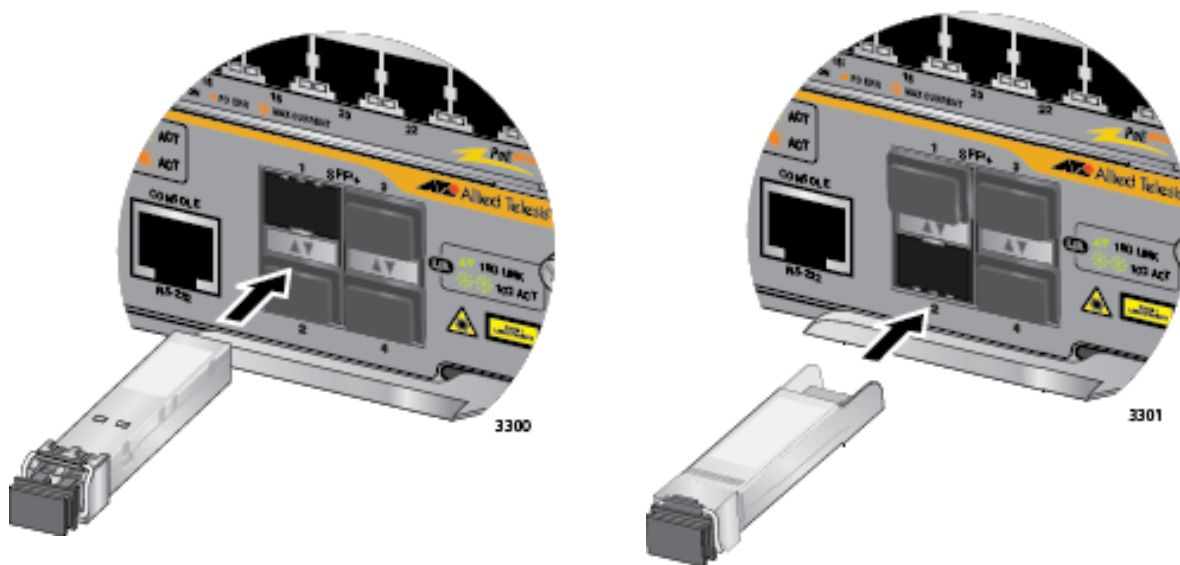

Figure 110. Installing an SFP+ Transceiver in the AT-SBx81CFC960 Controller Fabric Card
3. Slide the transceiver into the slot until it clicks into place, as shown in Figure 110 on page 184.